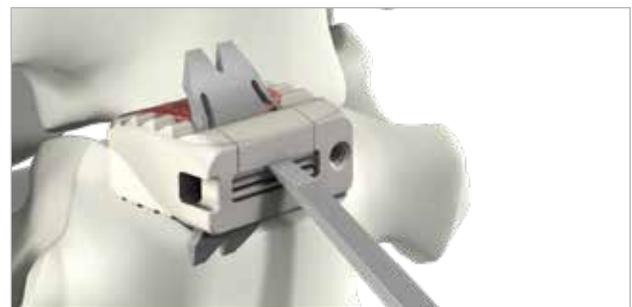

Figure 21
- Under irrigation, use a burr to create a notch on each side of the plate, weakening the PEEK for removal (Figure 21).